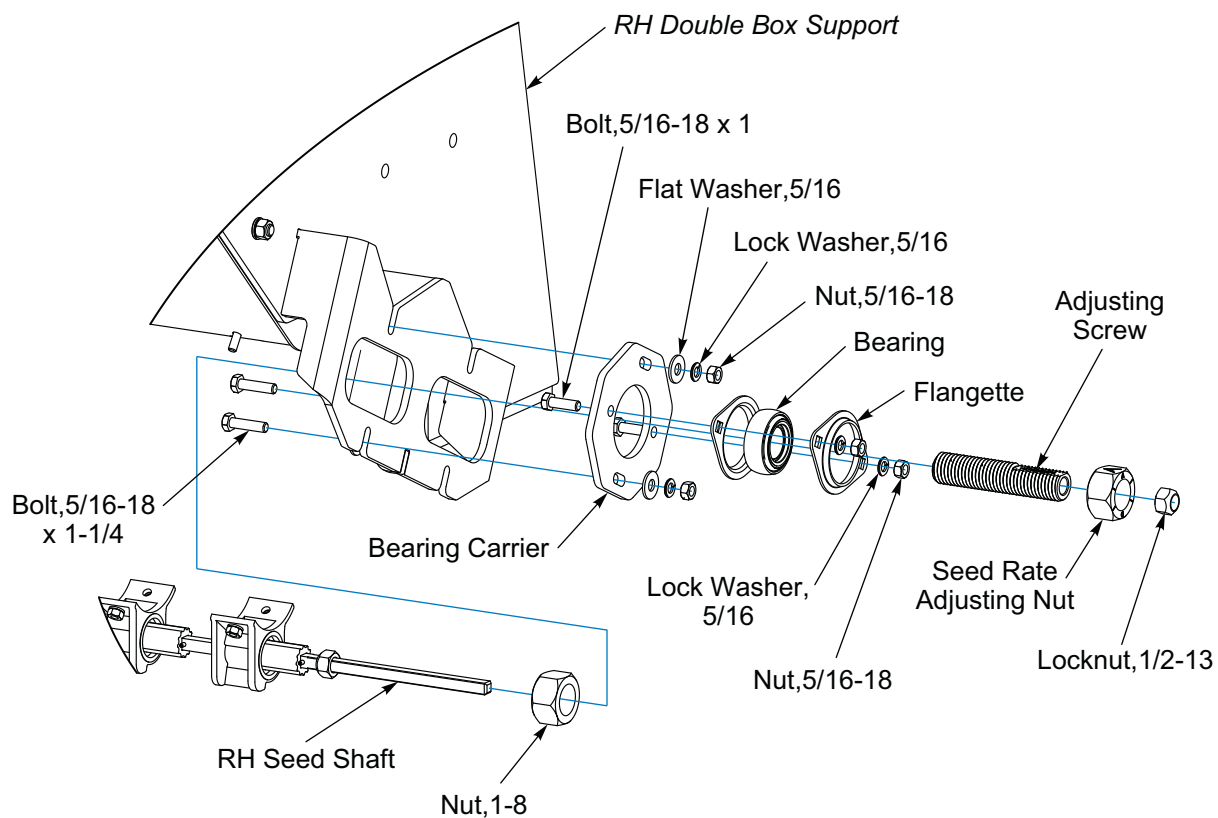

Figure 2-48: Rear Box RH End Assembly
24. Install Bearing Carrier onto RH Double Box Support with 5/16-18 x 1-1/4 Bolts, Flat Washers, Lock Washers and Nuts. **See Figure 2-48.**